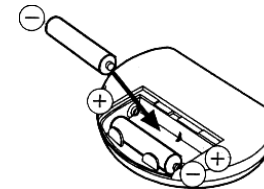

Figure 2
2. Installer les piles (AAA). (figure 2) (Piles non fournies)